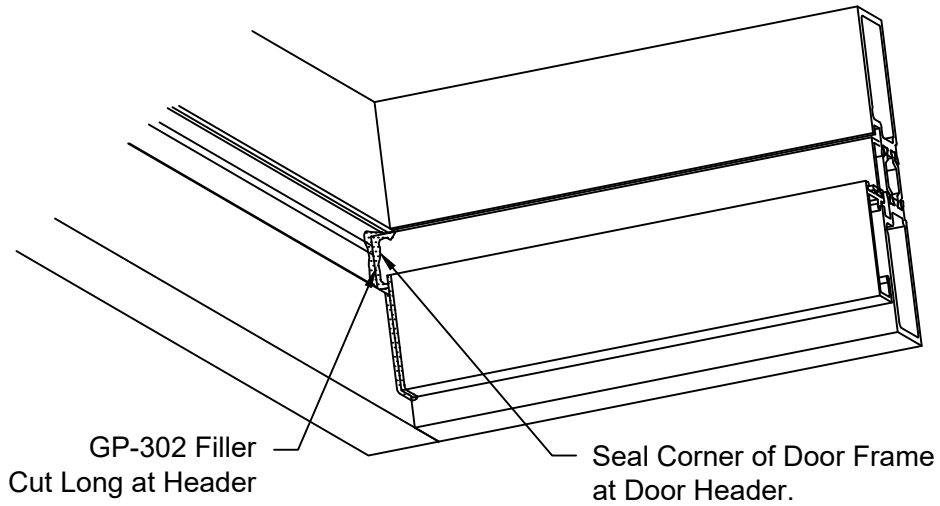

FIGURE 14
5. Ends of door stop at door header / GP-302 to be sealed as show in FIGURE 14, page 14.